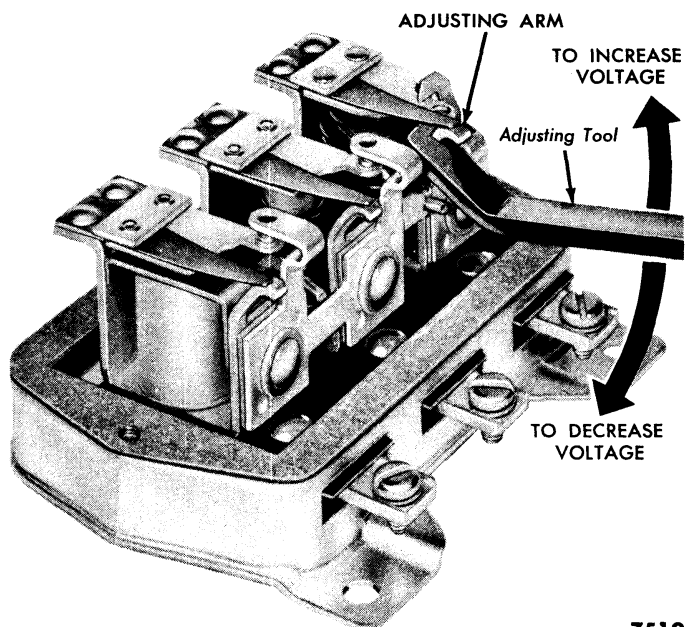

Fig. 28—Cut-in Voltage Adjustment
(1) **ADJUST CUT-IN VOLTAGE.** The cut-in voltage is increased by bending the adjusting arm upward, or decreased by bending it downward (fig. 28).